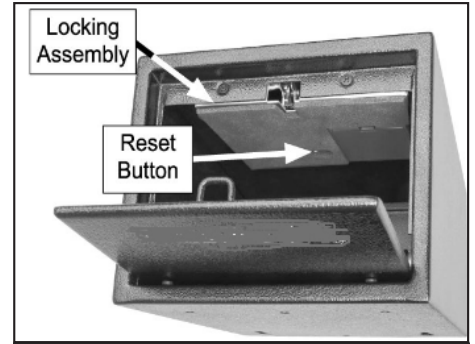

Figure 3 & 4. Battery compartment located in locking assembly
1. Place safe on its side, and locate the battery compartment on locking assembly shown in figure 3.